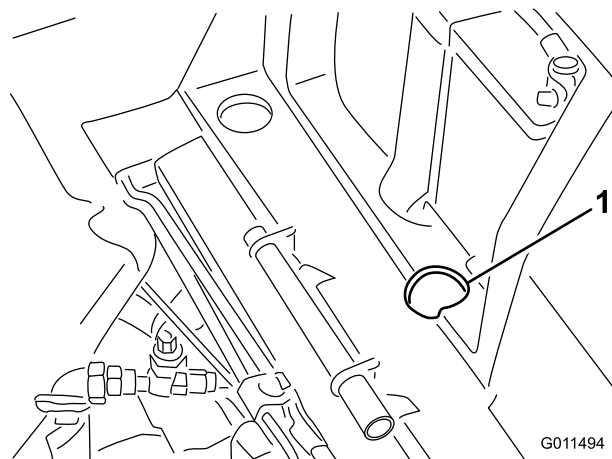

Figure 31
1. Raise the seat and remove the battery cover. The bypass valve is located in front of the battery (Figure 31).